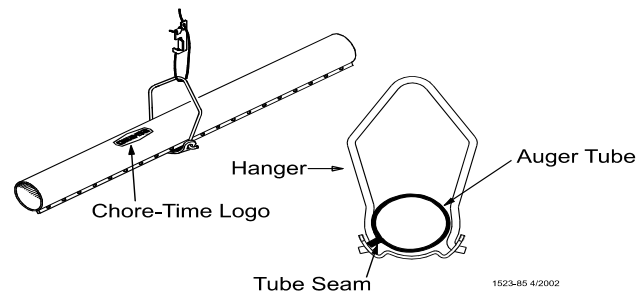

Figure 24. Hanger Installation
3. To achieve total feed drop out all along the system, the Chore-Time Logo should be centered at the crown of the tubes and all the Hangers should be installed as shown in **Figure 24.**